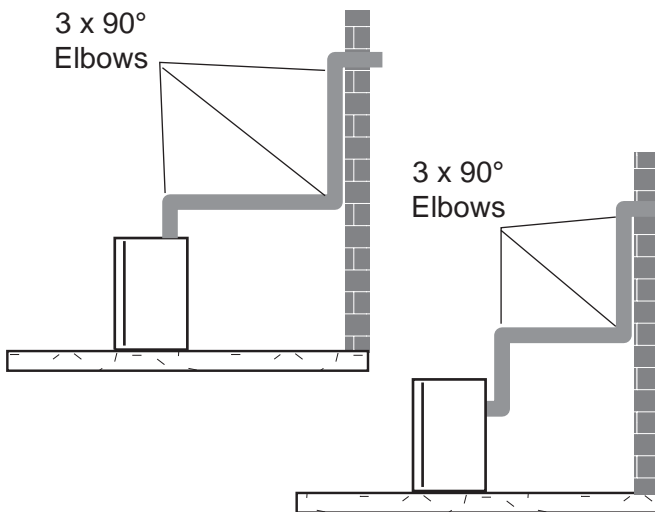
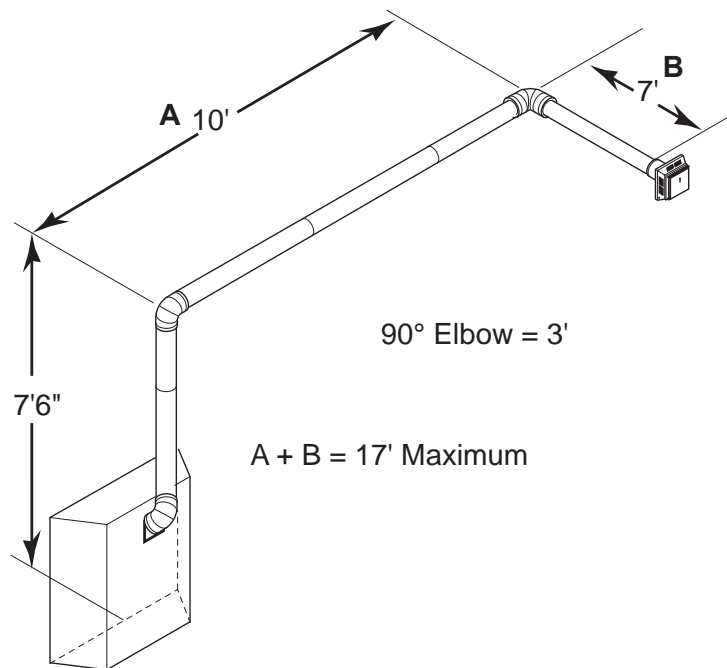

Figure 21 - Maximum Three (3) 90° Elbows Per Installation
Figure 24 - Maximum Vent Run with Elbows
- The maximum number of 90° elbows per side wall installation is three (3). See *Figure 21*.
- If a 90° elbow is used in the horizontal vent run (level height maintained) the horizontal vent length is reduced by 36". See Figures 21 and 22, page 20. This does not apply if the 90° elbows are used to increase or redirect a vertical rise. See Figure 24.